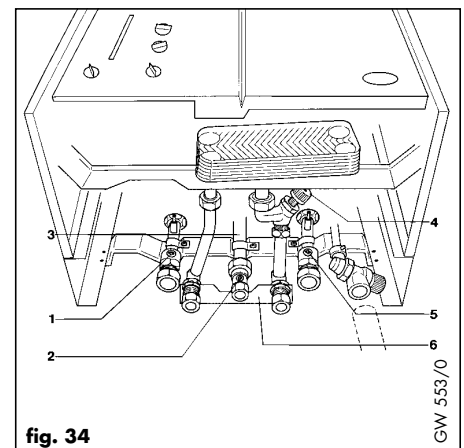

fig. 34
- Ensure the cold water shut-off valve (4, fig. 34) is open by turning anti-clockwise.
- Open the gas service valve (2, fig. 34)
- Check that the CH service valves (1 and 5, fig. 34) are open.